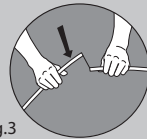

fig.3
- Push down on the disconnected rods until they join together. This forms the free standing frame. See fig. 3.